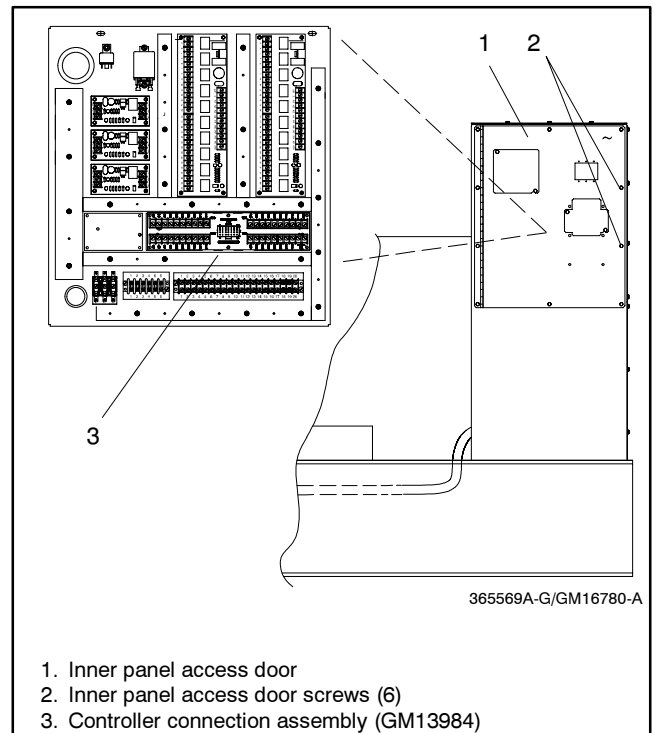

Figure 4 Terminal Block Bracket Mounting in Junction Box (450–2000 kW)
2.3.3 Attach the controller connection assembly (GM13984) to the junction box inner panel studs using six spacers (X-712-9) and nuts (X-70-12). Place the spacers between the controller connection assembly and the mounting bracket. See Figure 4 for the mounting location.